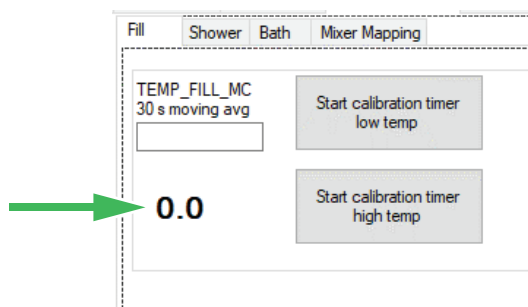

Figure 129
See Figure 129.
12. Press the Shower button, set it to high flow. Do not adjust the large gear wheel. The shower temperature should be 42°C (107.6°F) or above, actual temperature reading in Service tool, see Figure 129. If the temperature is lower, adjust on the large gear wheel until the temperature is $42.0^{\circ}\text{C} +0.5-0$ ($107.5^{\circ}\text{F} +0.9-0$) and remains so for 30 seconds.